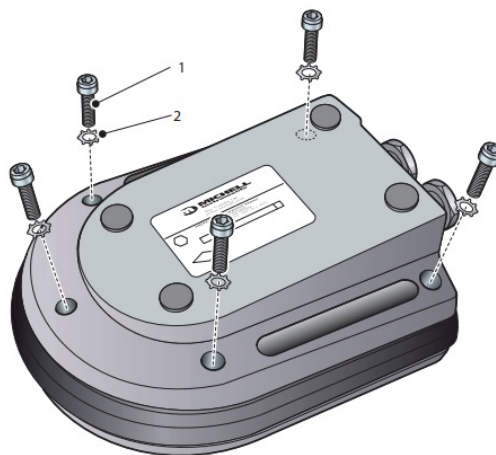

Figure 1 *Remove Case-Securing Bolts*
To gain access to the internal sensor and the battery housing, proceed as follows (refer to Figure 1).
4. Using an Allen key, sequentially remove the five cap screws (1) and washers (2) (see Figure 1).